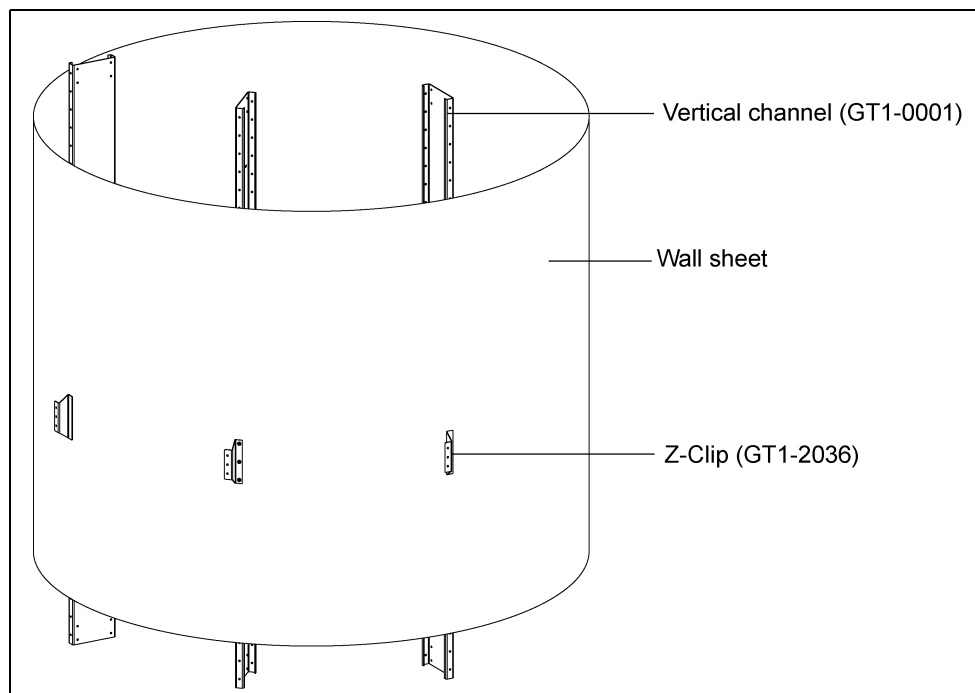
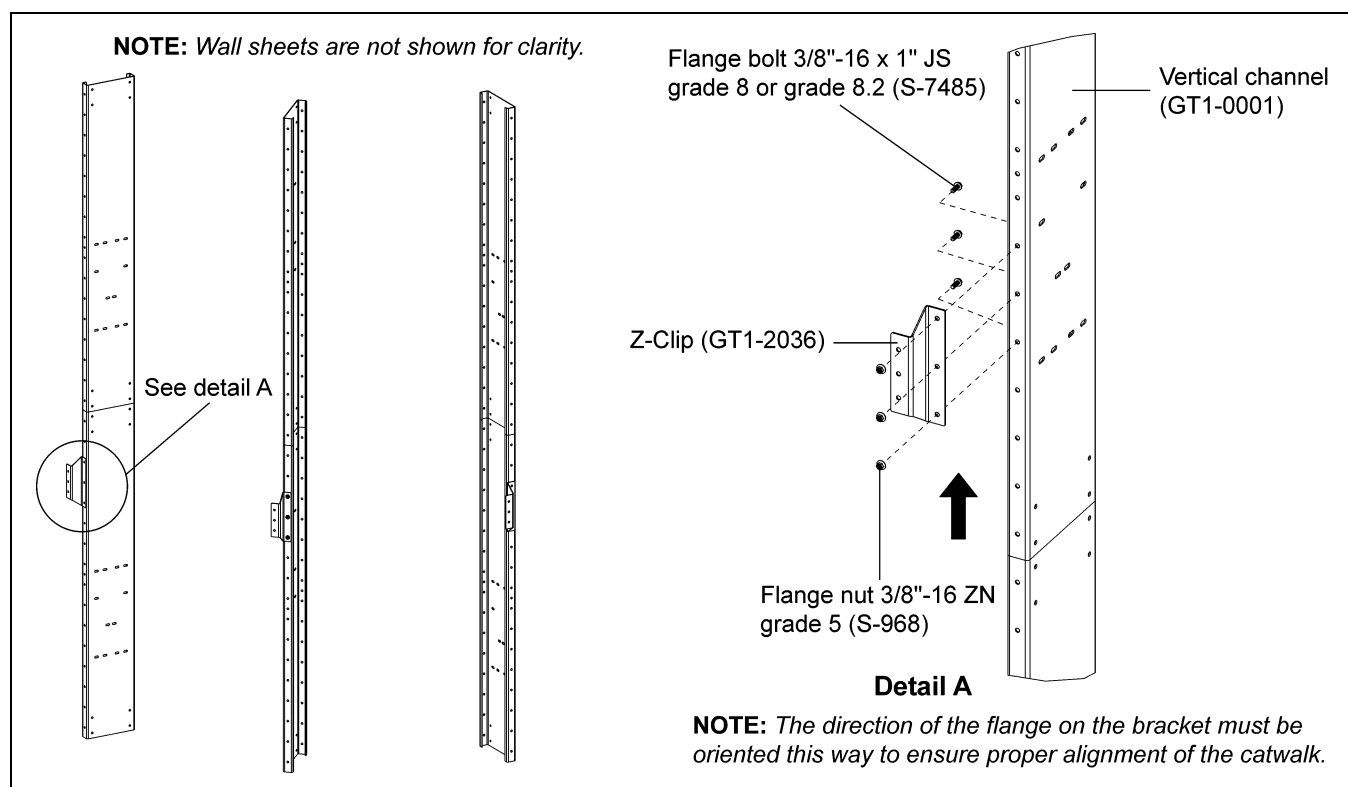

Figure 6A Offset Z-Clip Installation
Figure 6B Offset Z-Clip Installation
1. Bolt Z-clips (GT1-2036) to vertical channels (GT1-0001). The Z-clip can be installed on each vertical channel as wall sheets are installed using 3/8"-16 x 1" JS grade 8 or grade 8.2 bolts (S-7485) and 3/8"-16 ZN grade 5 nuts (S-968). (See Figure 6A, Figure 6B below, Figure 6C and Figure 6D on Page 47.)